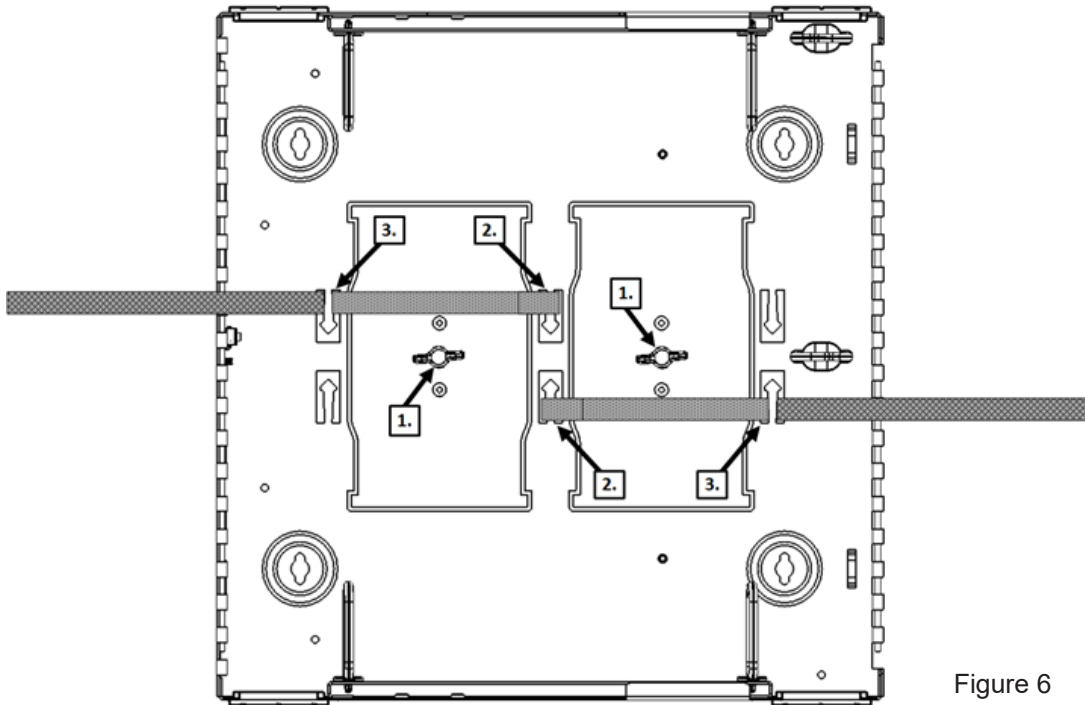

Figure 6
2. Insert Velcro strip under the first arrow lance point with the hook side facing up (Figure 6).